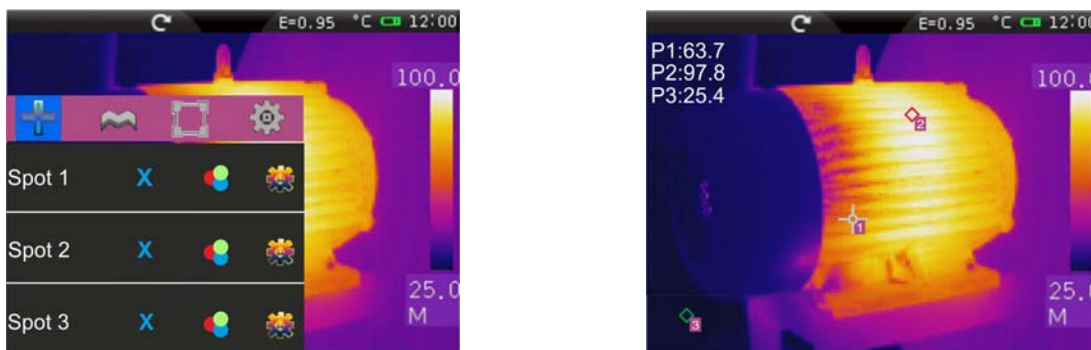

Fig. 21: Setting of measuring cursors
3. In manual mode the cursor takes the shape “” with identifier “1”, “2” or “3” and the label “P1”, “P2” or “P3” indicated next to the associated temperature value appears at the top left-hand side of the display. The cursor turns red when it is selected and can be moved on the image while it is white when it is fixed on the image (see Fig. 21).